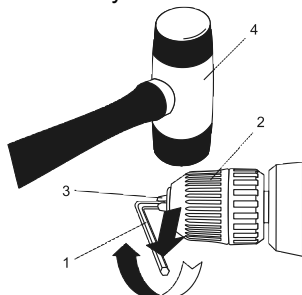

Fig. 7
2. Insert a 5/16"(8 mm) or larger hex key (1) into the chuck (2) and tighten the chuck jaws securely (Fig. 7). Make sure each of the chuck jaws (3) is seated on the flat surfaces of the hex key.